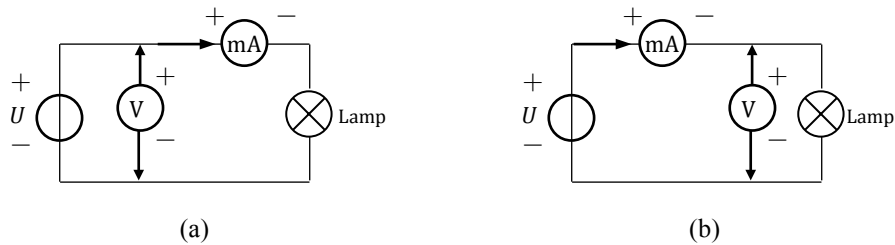

Figure 7. Two different electric circuits to measure the current-voltage characteristics of lamp.
- (1) What are the linear and nonlinear resistors?
- (2) When the current is extremely small, the resistance of a lamp is only several Ohms, then which circuit (shown in Figure 7) is better to measure its current-voltage characteristics, and why?